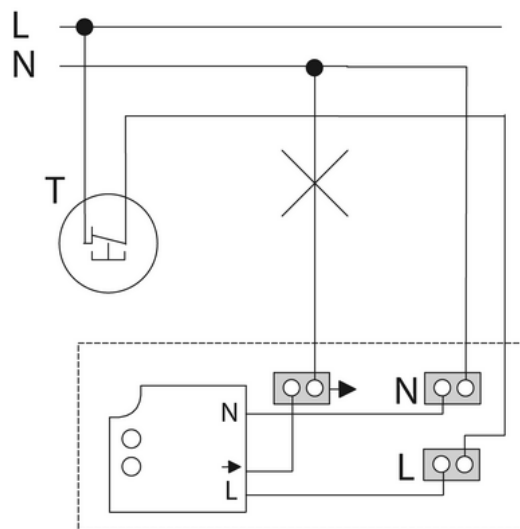

Figure 8: Motion detector connection diagram
- Connect controller and optional installation button T, NC contact, according to connection diagram (Figure 8).